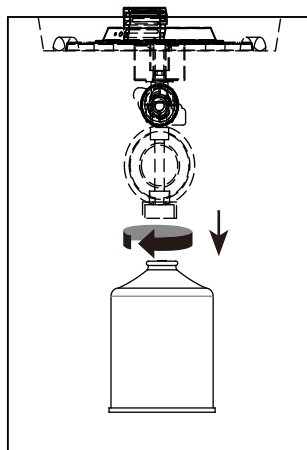

Figure 3
- (1). Turn the control knob to the "OFF" position.
- (2). Rotate cylinder counterclockwise until it is loose (see Figure 3).
- (3). Remove the cylinder.
- (4). Store the cylinder in a proper location.
- (5). Place the protective cap cover on the cylinder and store the cylinder outdoors in a well ventilated area out of direct sunlight.